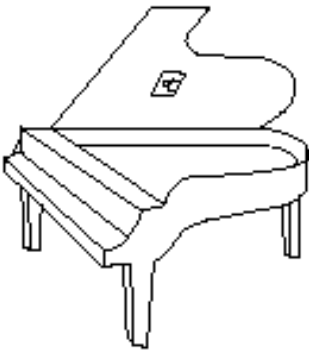

Fig. 19
- Tape one or two PZMs or PCCs to the underside of the lid, about 8" horizontally from the hammers (see Fig. 19). To reduce feedback, close the lid.